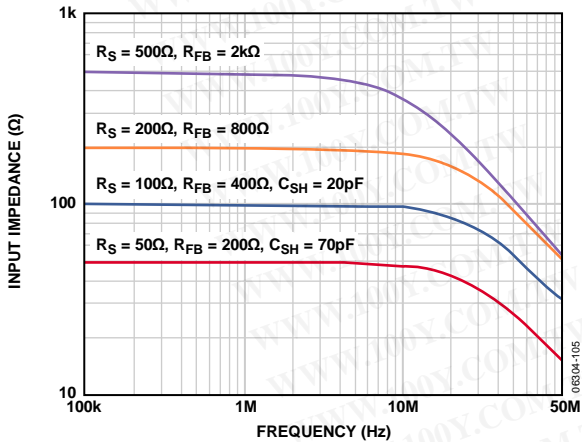

Figure 42. R_{IN} vs. Frequency for Various Values of R_{FB}
The bandwidth (BW) of the LNA is about 70 MHz. Ultimately the BW of the LNA limits the accuracy of the synthesized R_{IN} . For $R_{IN} = R_S$ up to about 200 Ω , the best match is between 100 kHz and 10 MHz, where the lower frequency limit is determined by the size of the ac-coupling capacitors, and the upper limit is determined by the LNA BW. Furthermore, the input capacitance and R_S limit the BW at higher frequencies. Figure 42 shows R_{IN} vs. frequency for various values of R_{FB} .
Note that at the lowest value, 50 Ω , in Figure 42, R_{IN} peaks at frequencies greater than 10 MHz. This is due to the BW roll-off of the LNA, as mentioned previously.